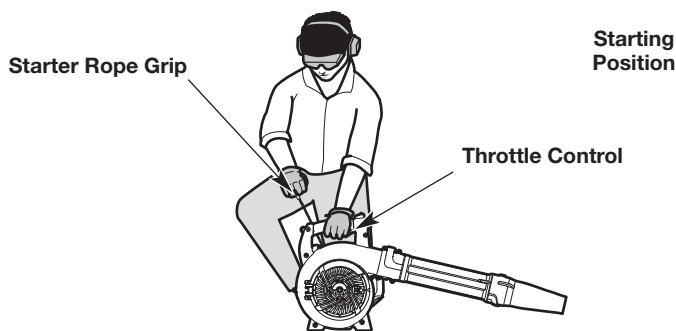

Fig. 13
WARNING: Avoid accidentally starting the unit. To avoid serious injury, the operator and the unit must be in a stable position when pulling the starter rope (Fig. 13).
3. Crouch in the starting position (Fig. 13).
5. Pull the starter rope with a controlled and steady motion **5 times** (Fig. 13).